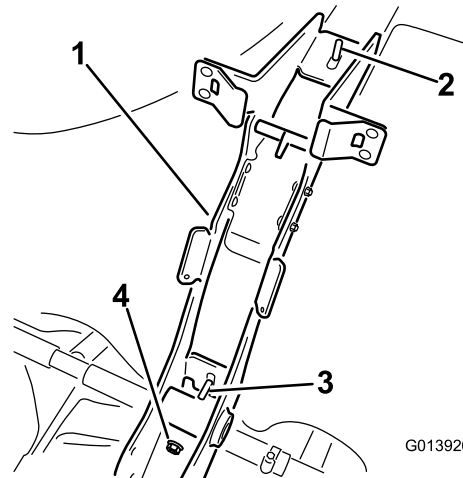

Figure 4
7. Secure the main-support frame to the tank strap (Figure 4) using 2 flanged locknuts (3/8 inch).